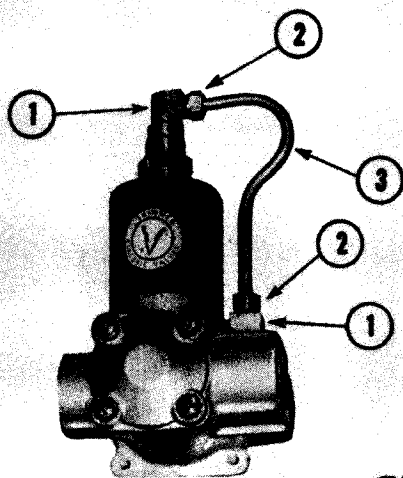

Figure 14-5
Unscrew nuts (2, Fig. 14-5) and remove tube (3). Remove elbow (1).
Install one elbow (1, Fig. 14-5) in adapter and one in body. Connect each end of tube (3) to an elbow. Tighten nuts (2).